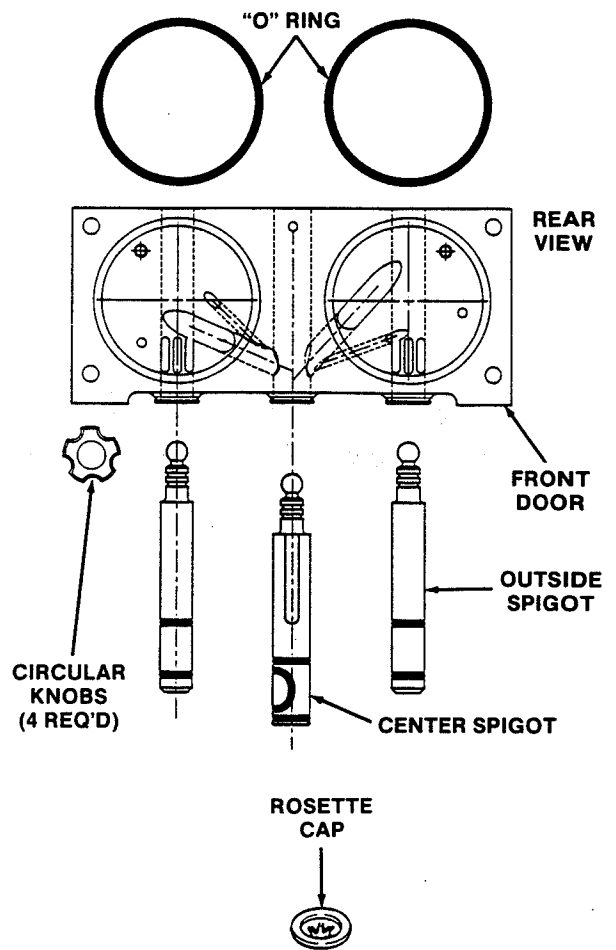

Figure 26. Exploded View of Front Door
- H. Install the spigot bodies with "O" Rings and spring into the front door from the bottom (Fig. 26). Push straight up until the spigots are in place. Install rosette caps.